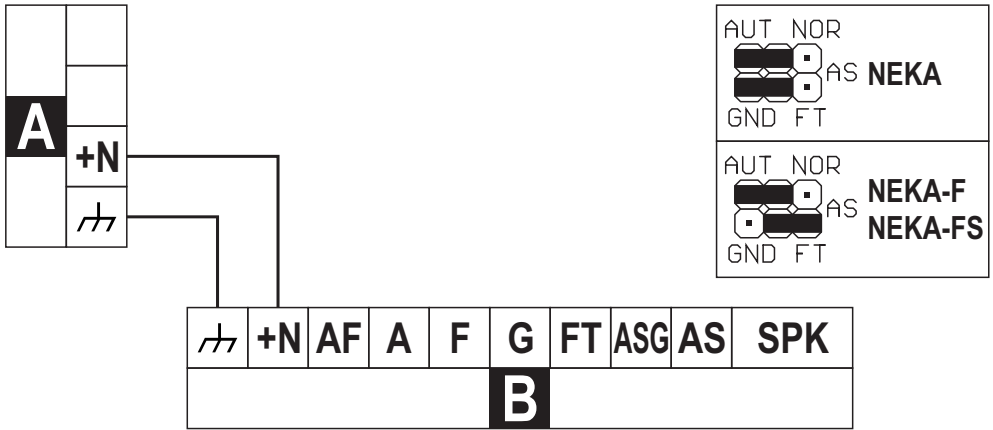

Figure 3 – Automatic mode: A) control panel; B) siren.
For siren basic operation are required two wires only, as shown in figure 3: the control panel (A) must have a terminal (+N) where 13.8 V voltage (minimum 600 mA) is present on standby and no voltage in alarm; the control panel cannot detect the siren tamper, and foam tamper (NEKA-F and NEKA-FS only) but the siren automatically activates for those events.